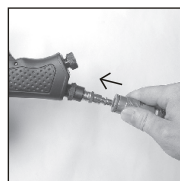

Figure 3
6. Connect air supply hose to the male plug. Set the air pressure at 90 PSI. (See Figure 3)